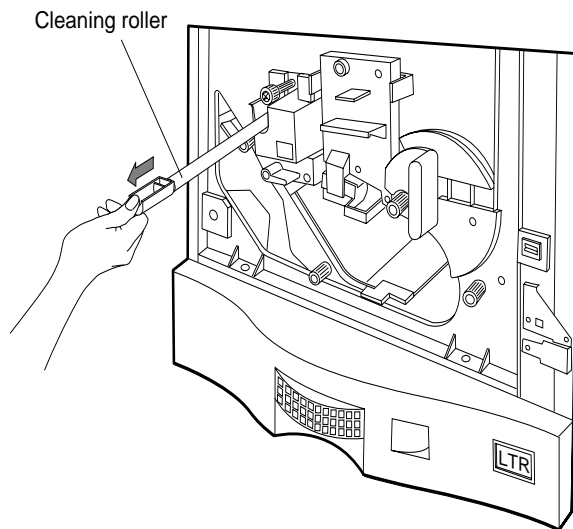

Figure 4-6 Removing the Cleaning Roller
2. Pull out the old cleaning roller, as shown in Figure 4-6.